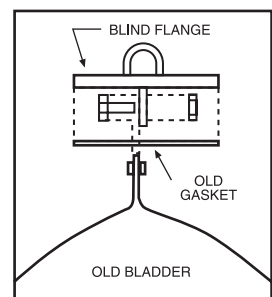

Figure 4
10. Unbolt blind flange (Figure 4) from old bladder and remove old gasket.